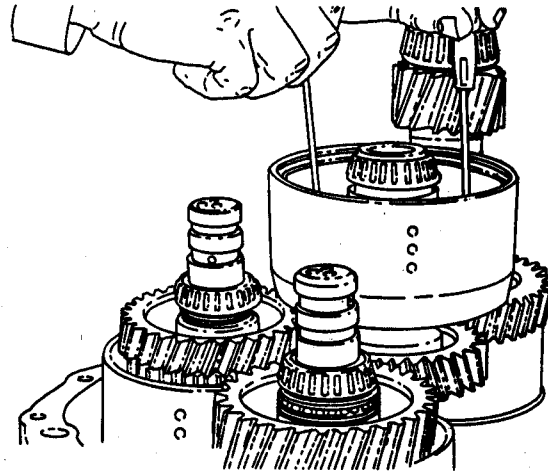

Figure 22.
15. Using two small screwdrivers (Figure 22) align the friction/counter plates of the mainshaft clutch.